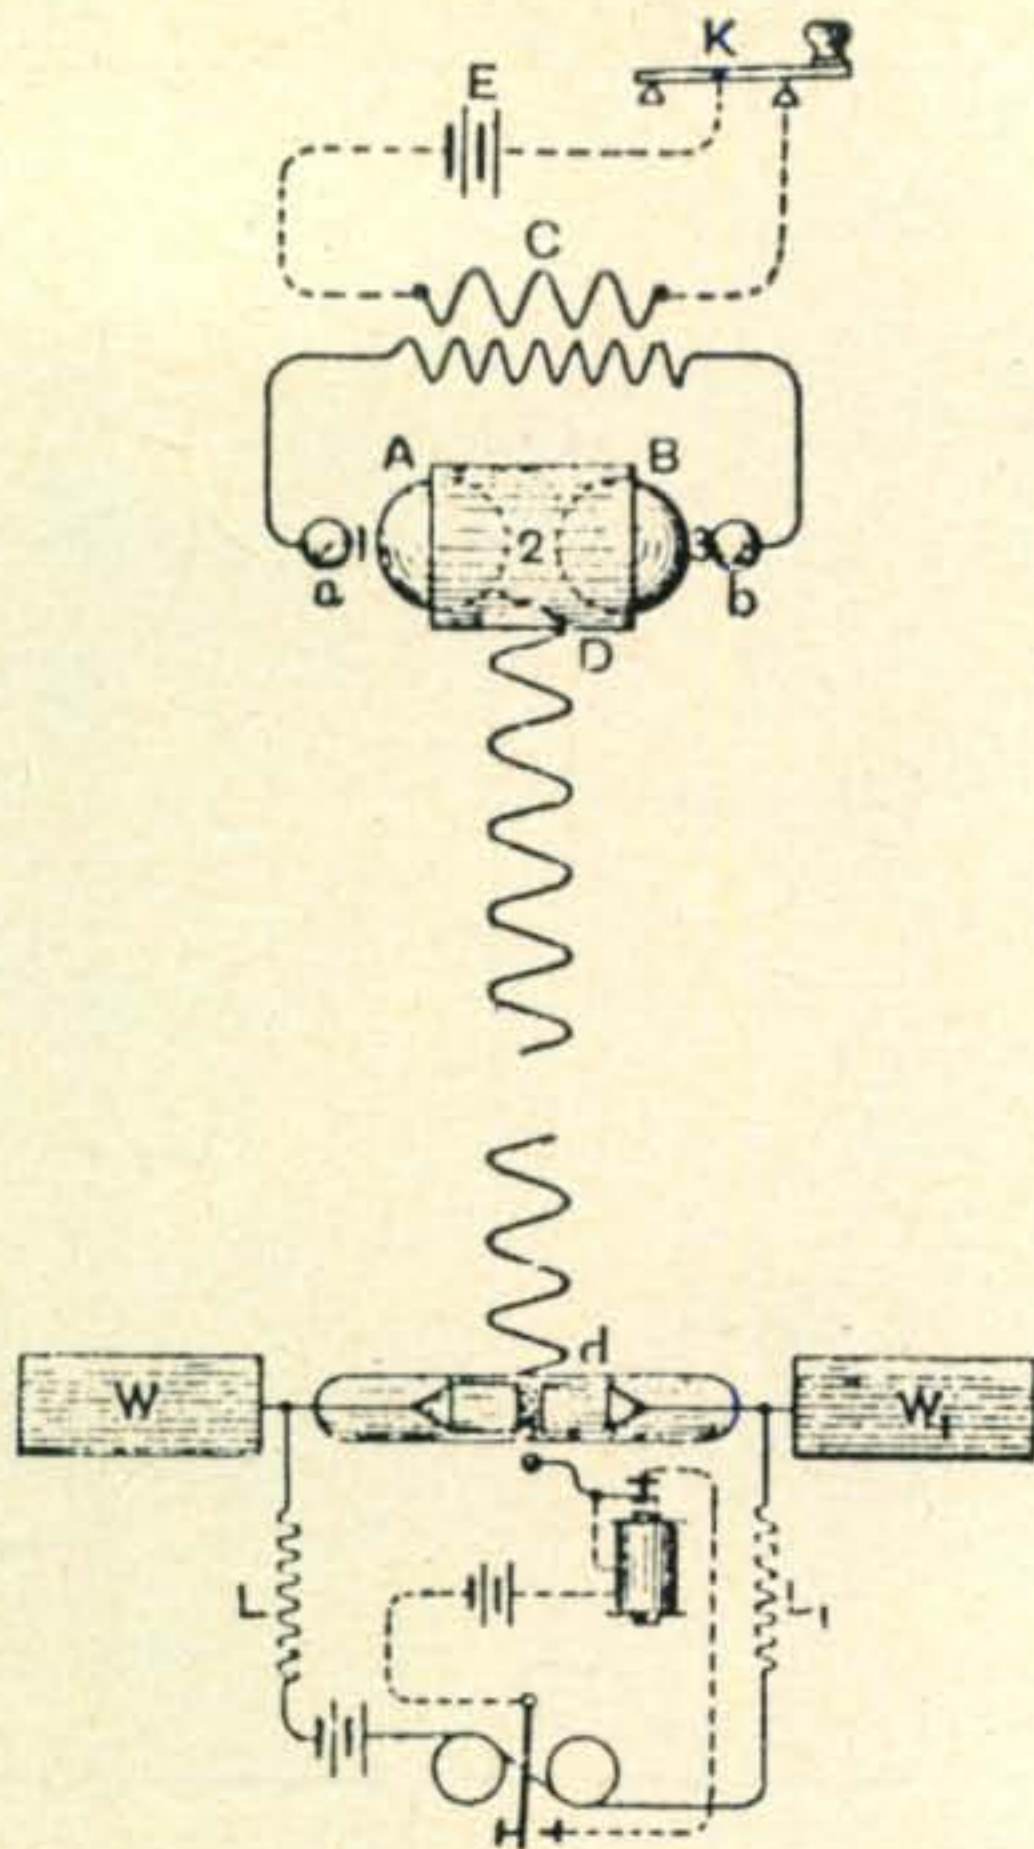

Fig. 1—Diagram of the Marconi transmitting and receiving apparatus used in the very early experiments.
The dimensions of the antenna are shown in fig. 1. Since I could find no name for the configuration, I simply called it the all-around dipole. Unfortunately, I could also not find any feed-point impedance figures for the antenna and so I performed a few trail-error tests to determine the optimum matching conditions.
Fig. 1—Basic dimensions of the 20 meter All-Around Dipole. The lengths of the elements are calculated from  $L = 468/f_{mc}$ . The 300 ohm ribbon matching section should be 0.77 of the quarter wavelength to allow for the velocity factor. A balun with a 1:1 impedance transformation can be used between the coax and 300 ohm line as explained in the text.
According to the wire size ( $7 \times 20$ ) I used to construct a 20 meter version of the antenna, the center impedance, if the end sections were horizontal (making it a double Zepp), would be in the order of 5,000 ohms. Working on this basis I constructed a matching system to suit but found the s.w.r. to be too high. By cut-and-try I finally arrived at the very simple matching system shown also in fig. 1. Apparently folding the ends of the antenna had just lowered the center impedance enough to make a near perfect match using 300 ohm line as a quarter-wave transformer from 52 ohm coax. On the 20 meter model, I measured a maximum s.w.r. of 1.6 to 1 at the band ends with this matching system.
A form of Prof. Righi's Hertz radiator as constructed by Marconi is shown in fig. 1. The spark gap was two balls made of brass, 4 inches in diameter (A and B) fixed in an oil tight case of insulating material. A battery (E), was thrown in and out of the circuit by the Morse key (K). Whenever the key is depressed sparks pass between the gap. Since the system A and B contain capacity and electric inertia, oscillations are set up in it of extreme rapidity. The line of propagation is (Dd.)